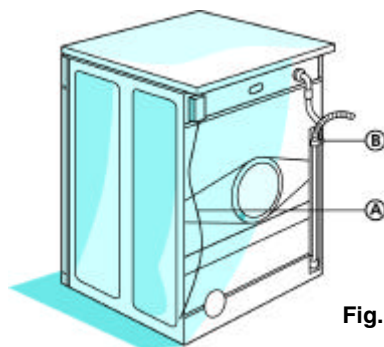

Fig. 1
1. Unhook the drain hose from the left clip; see arrow A in Fig. 1.
Do NOT loosen the drain hose connection; see arrow B in Fig. 1, otherwise there is the risk of leakage (danger of scalding with hot water).
2. Fit the drain hose either to the siphon or hook it over the edge of a sink or bath tub with the "U" bend (Fig. 1). Small hand basins are not suitable.